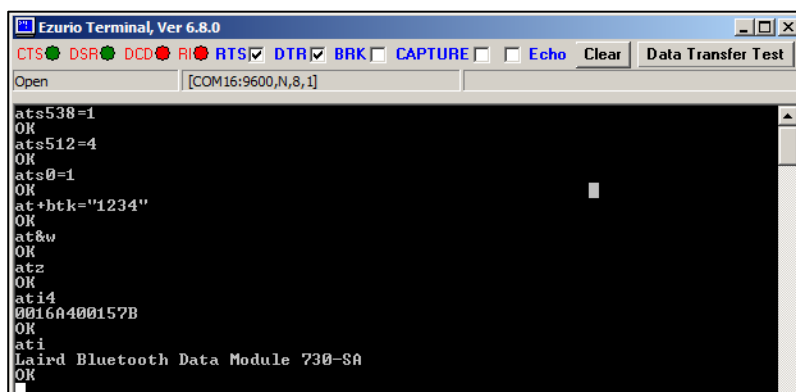
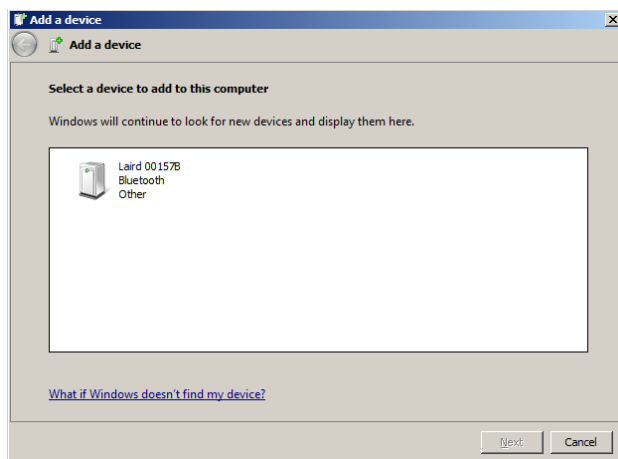

Figure 2: Module setup
Figure 14: Add a device
8. Send the following commands to set up the module, as shown in Figure 2:
2. Click **Add a device**. The DVK-BT730 should now appear, in this case as Laird 00157B (Figure 14). If you cannot identify the correct device, refer to the AT14 command from the module setup (Figure 2).